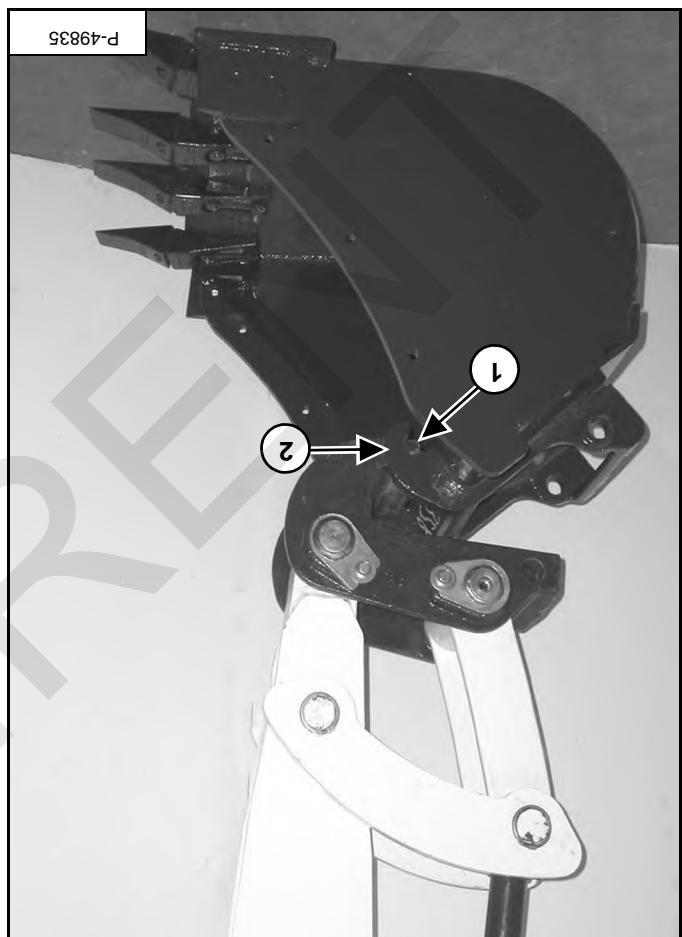

Figure 124
Start the engine, raise the boom approximately 305 mm (12 in) and retract the bucket cylinder until the X-Change pins (item 1) engage the hooks (item 2) [Figure 124] on the attachment.